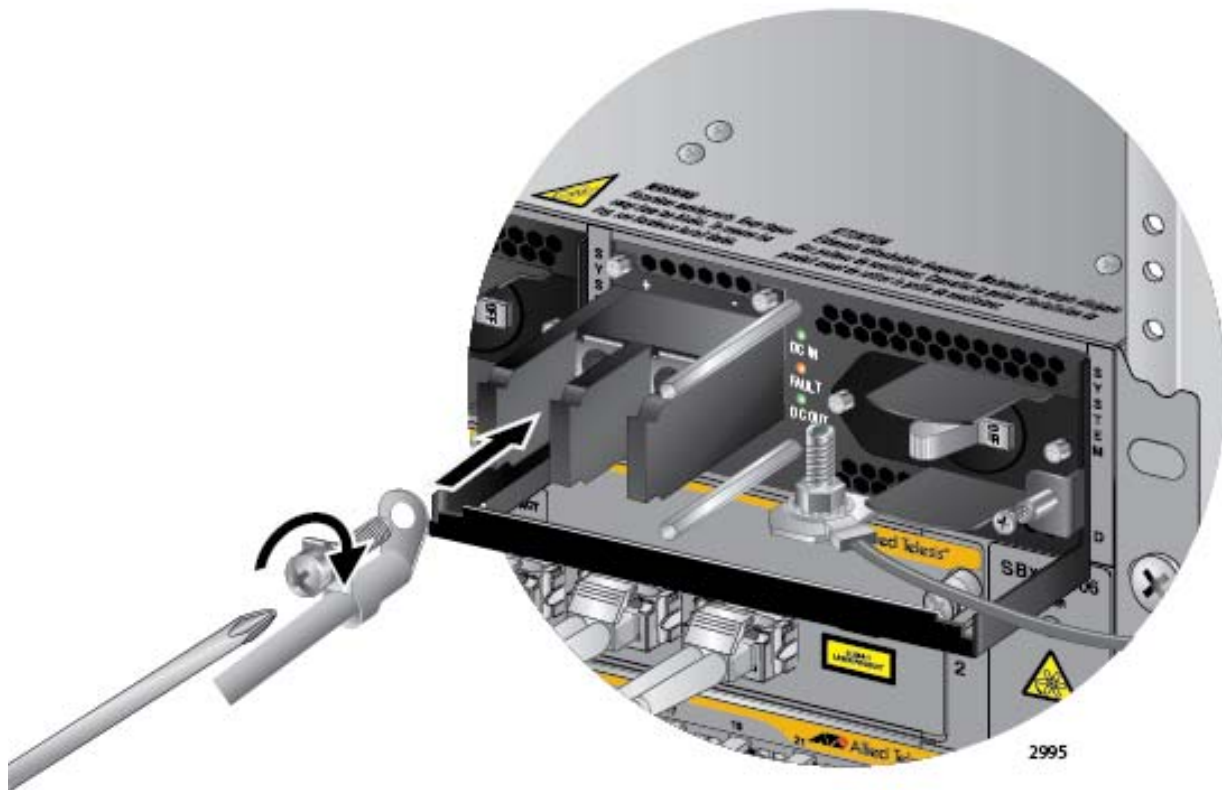

Figure 120. Connecting the Positive (+) Power Wire with a Right Angle Terminal
6. With a #3 Phillips-head screwdriver, connect the positive (+) power lead wire to the positive terminal on the power supply, with one of the terminal screws removed in the previous step. The positive terminal is on the left. Refer to Figure 120 on page 180.